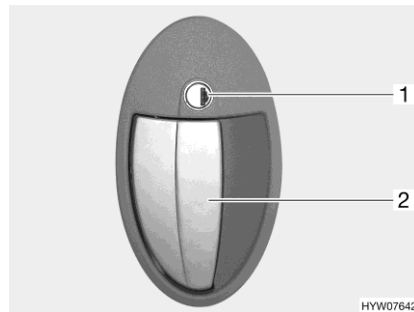

Fig. 53 Door lock (living area door, outside)
- Insert the key in the locking cylinder (Fig. 53,1) and turn it in a clockwise direction until the door lock is unlatched.
- Pull on the door handle (Fig. 53,2). The door is open.
- Insert the key in the locking cylinder (Fig. 53,1) and turn it in an anticlockwise direction until the door lock is engaged.